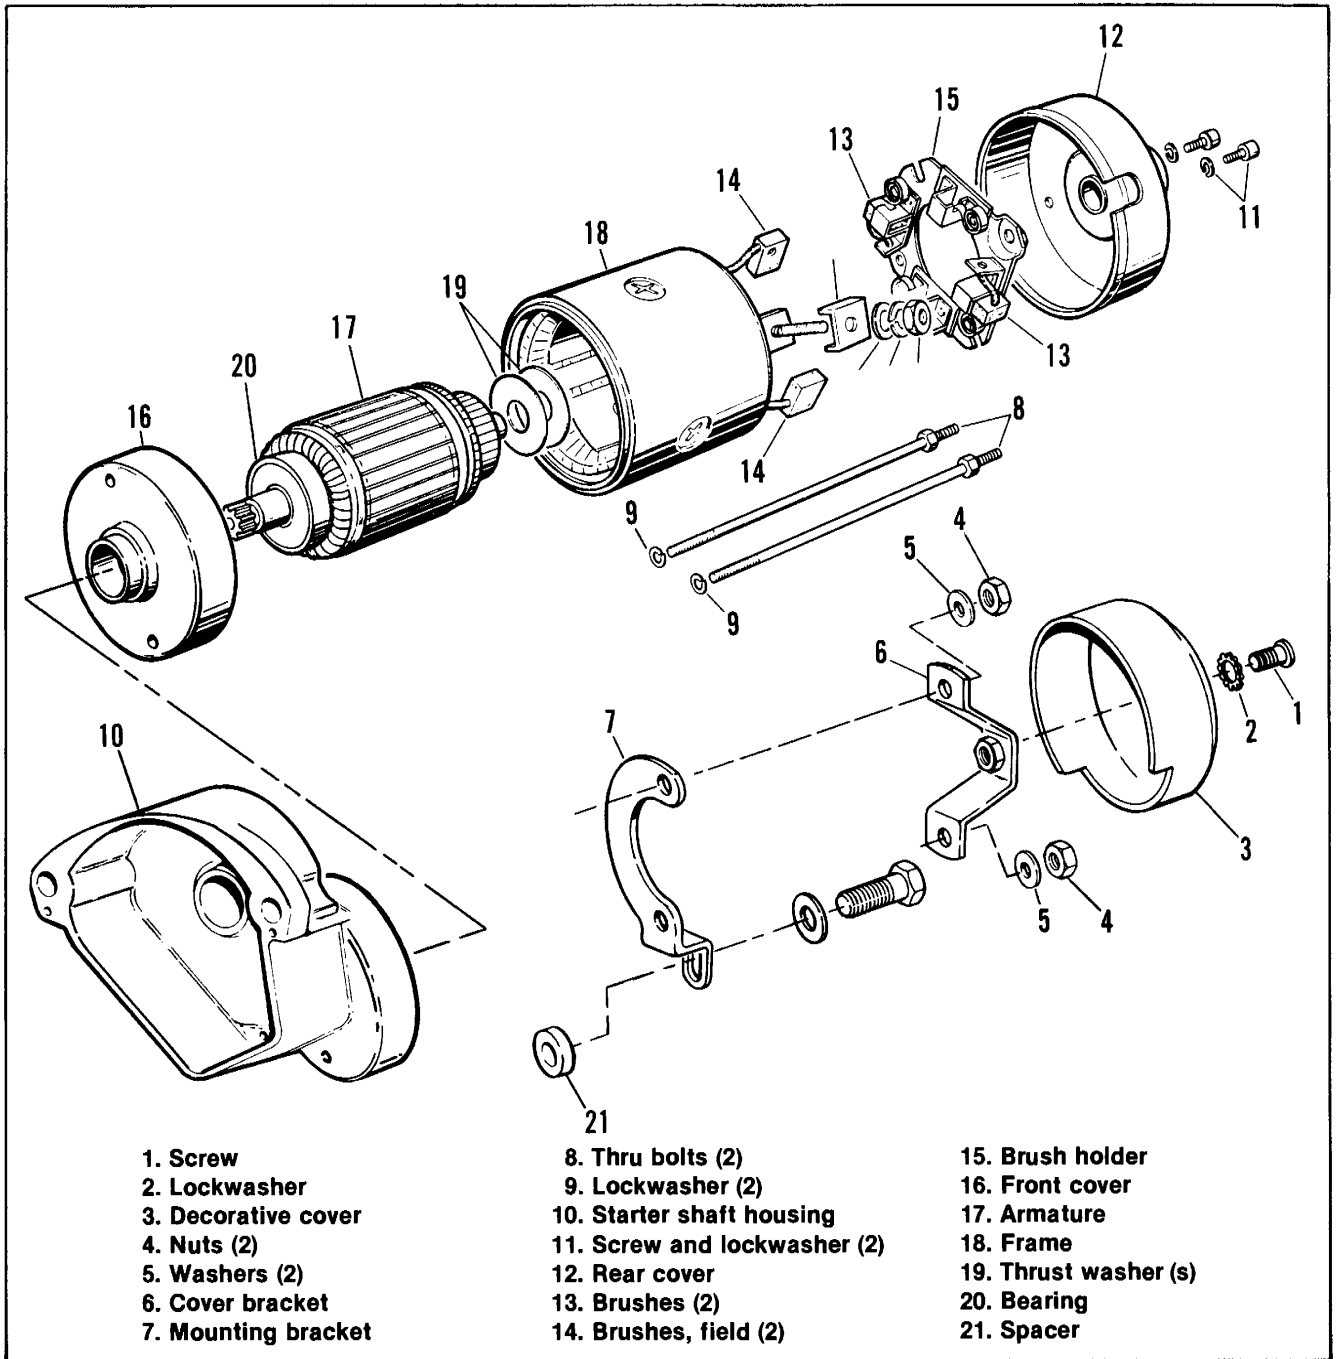

Figure 5-3. Starter Motor
1. Disconnect solenoid cable from starter terminal (1).
2. Remove the bolt and washer (2) that fastens starter bracket.
3. See Figure 5-3. Remove starter thru-bolts (8).
DISASSEMBLY (Figure 5-3)
10. Inspect the bearing (20, Figure 5-3). If it is worn or loose, replace it.
11. Inspect the bushing in the commutator end cover (12, Figure 5-3) and the corresponding bearing surface of the armature shaft. If the bushing is worn, replace the commutator cover. If the armature shaft is worn, replace the armature.
ASSEMBLY (Figure 5-3)
3. See Figure 5-3. Install brackets (6 and 7) and secure with washers (5) and nuts (4). Tighten nuts to 20-25 in-lbs torque.